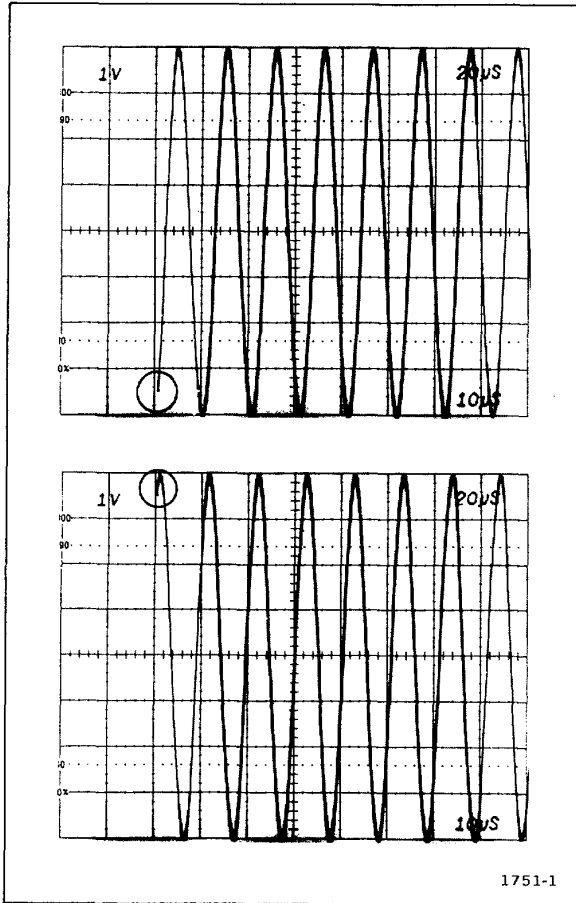

Fig. 5-1. Main Triggering level range.
g. Check-that all levels of the positive slope may be selected for the sweep starting point as the MAIN TRIGGERING LEVEL control is rotated throughout its range, and that triggering occurs at least 3.5 divisions above and below the center horizontal graticule line. See' Fig. 5-1 for reference.